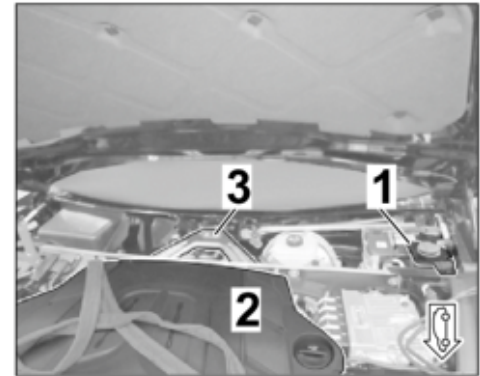

Figure 10
1.4 Exposing the plenum panel area ⇒ Figure 10
- 1.4.2 Remove filler neck from windshield-washer reservoir (⇒ *Figure 10 -1-*). ⇒ *Workshop Manual '926019 Removing and installing windscreen-washer reservoir'*
- 1.5.1 Remove engine cover (design cover) (⇒ *Figure 10 -2-*). ⇒ *Workshop Manual '108319 Removing and installing engine cover - T9I'*